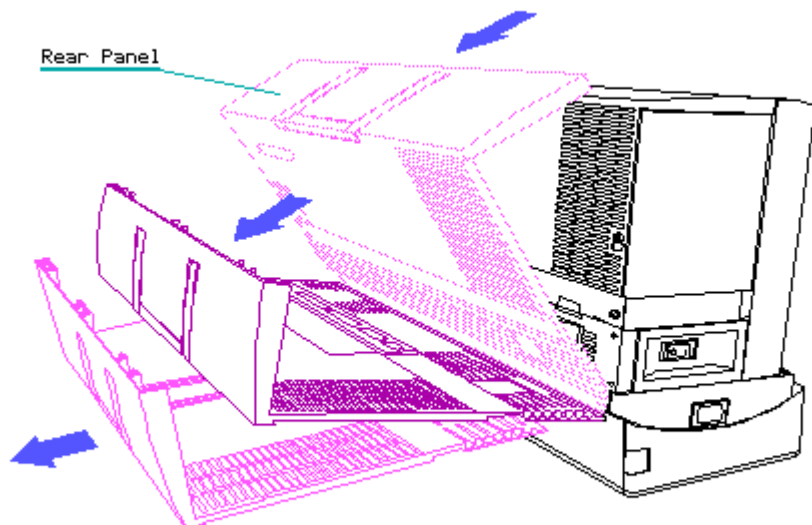

Figure 5-6. Removing the Rear Panel
3. Pull the rear panel out and up, until the bottom latches are released from the slots (Figure 5-6).